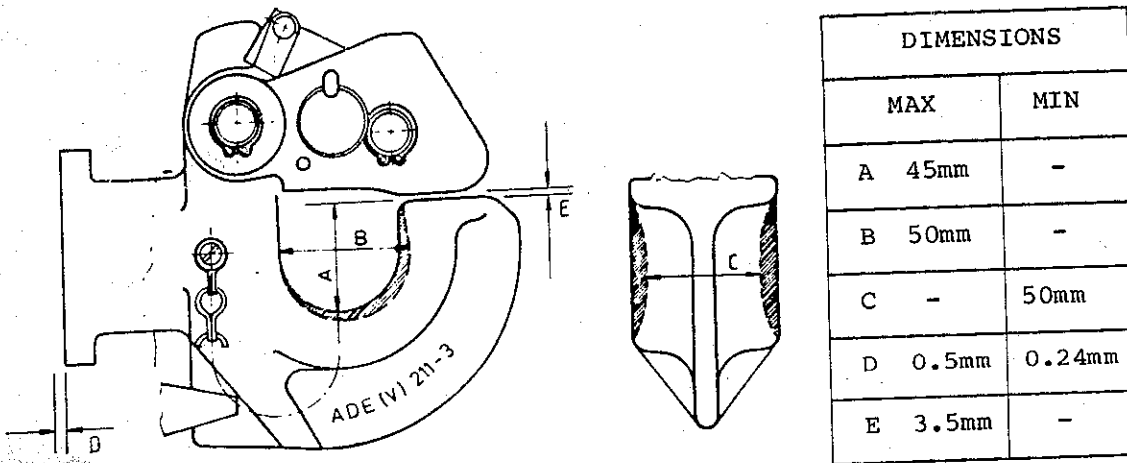

FIG 2 - TOWING PINTLE ASSEMBLY - WEAR LIMITS
- a. Inspect the faces of the lock and the hook to ensure that the faces are parallel. With the latch fully engaged the clearance between the two faces should be no greater than 3.5 mm (Refer to Fig 2).
- h. Inspect the hook assembly for end float in the body ring and base assembly. This must measure 0.5 mm maximum and 0.24 mm minimum. (Refer to Fig 2).
- 5. When wear in the towing pintle assembly exceeds the limits detailed in Fig 2, then the hook is to be replaced and forwarded to the Repair Agency: